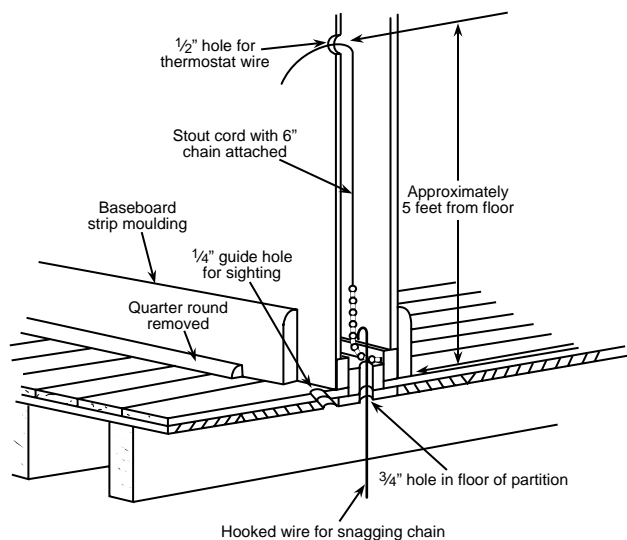

Figure 1. Routing thermostat wires
1. Probe for obstructions in partition before drilling 1/2" hole in wall at selected location. Take up quarter round and drill a small guide hole for sighting (see fig. 1). From basement, drill 3/4" hole in partition floor next to guide hole. In buildings without basements, drill 1/2" hole through ceiling and into partition from above.